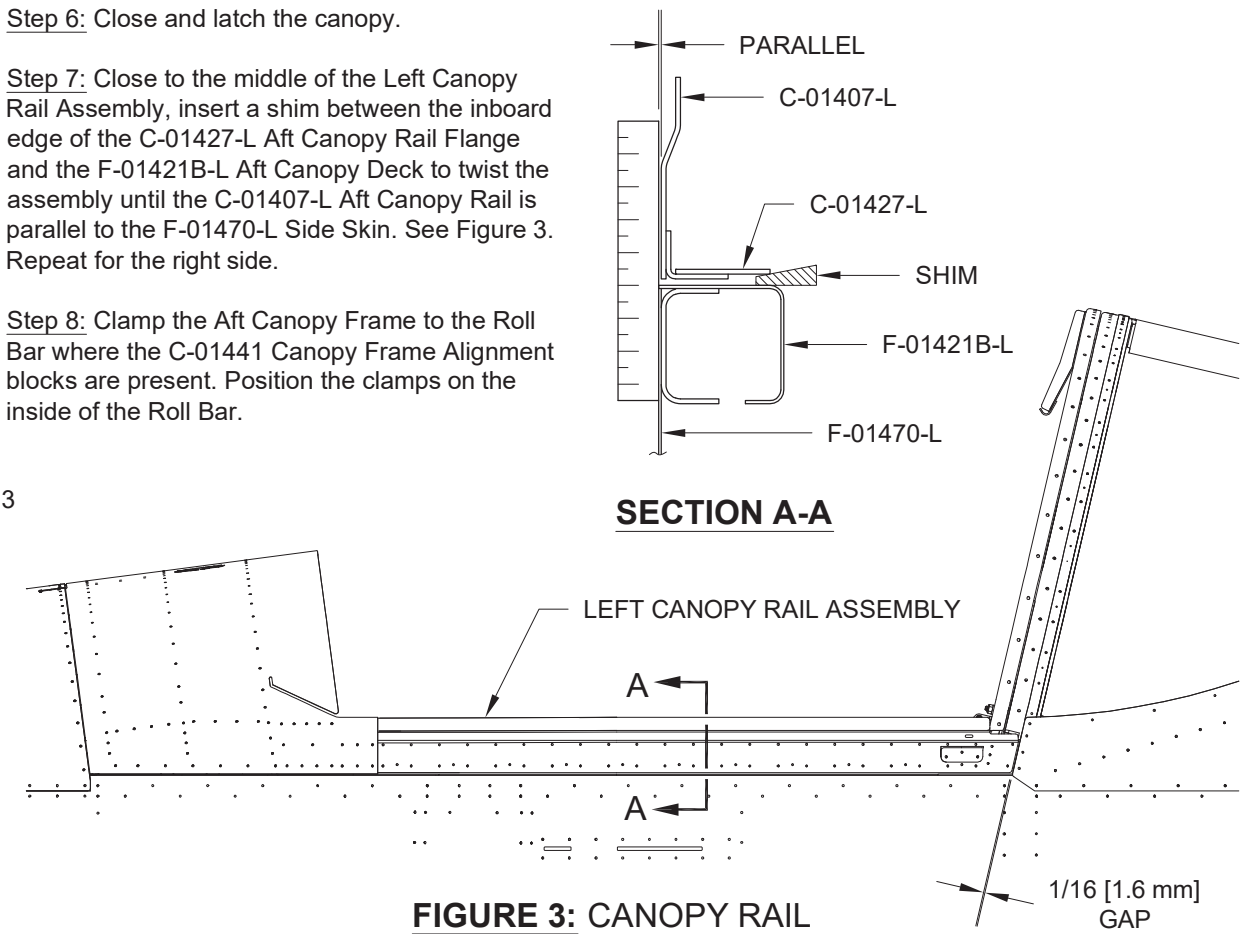

FIGURE 3: CANOPY RAIL ASSEMBLY TWIST
Step 7: Close to the middle of the Left Canopy Rail Assembly, insert a shim between the inboard edge of the C-01427-L Aft Canopy Rail Flange and the F-01421B-L Aft Canopy Deck to twist the assembly until the C-01407-L Aft Canopy Rail is parallel to the F-01470-L Side Skin. See Figure 3. Repeat for the right side.